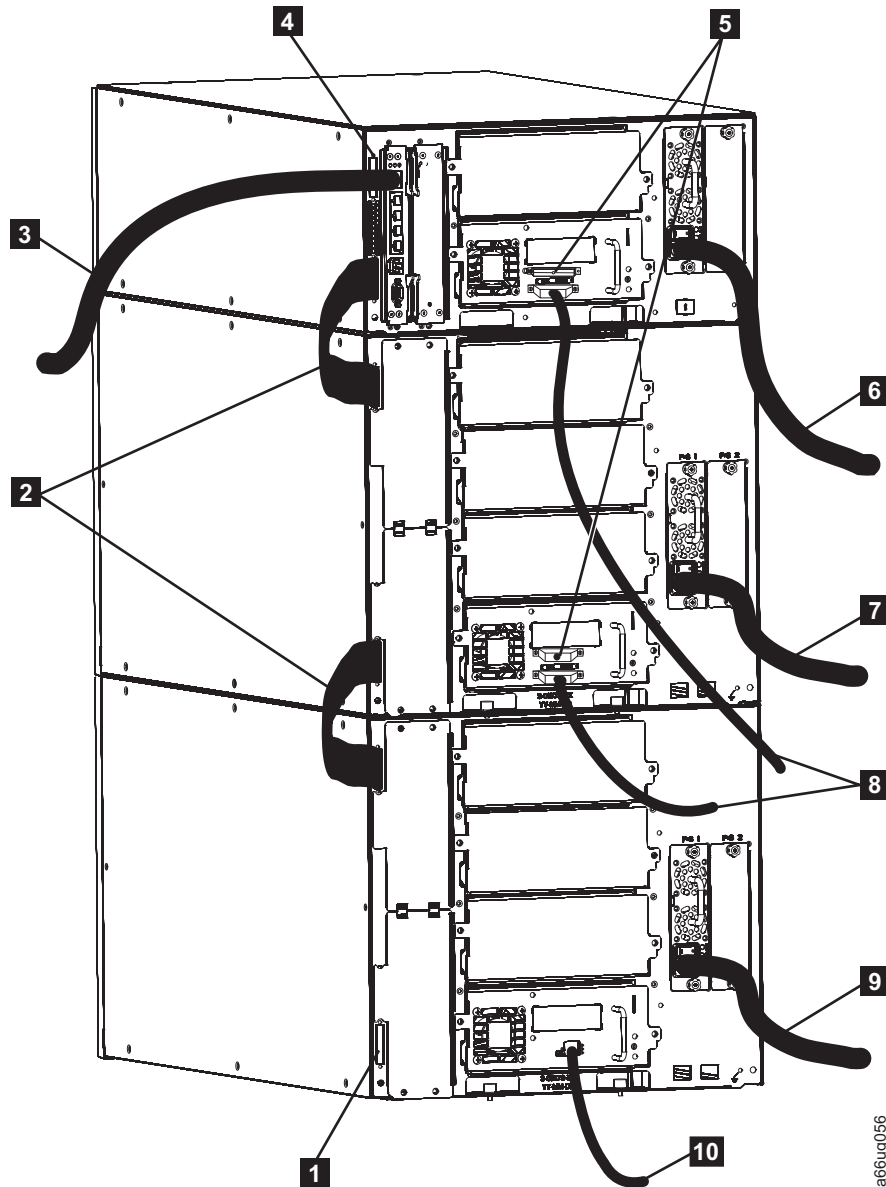

Figure 3-41. Cabling with Fibre Channel drives
1. Install a module communication terminator in the upper receptacle of the upper module of your library (**4** in Figure 3-41).
2. Install one end of one of the module-to-module communication cables in the lower receptacle of the upper module of your library. Then, install the other end in the upper receptacle of the middle module of your library (**2** in Figure 3-41 on page 3-39).
3. Install one end of the other module-to-module communication cable in the lower receptacle of the middle module of your library. Then, install the other end in the upper receptacle of the bottom module of your library (**2** in Figure 3-41 on page 3-39).
4. Install a module communication terminator in the lower receptacle of the bottom module of your library (**1** in Figure 3-41 on page 3-39).
5. Install one end of the customer-supplied ethernet cable in the Library Control Blade (LCB) ethernet port. Then, connect the other end of the cable to your network (**3** in Figure 3-41 on page 3-39).
6. For each drive, install one end of the drive host SAS or fibre cable in a drive in the library. Then, connect the other end of the cable to your network (**10** in Figure 3-41 on page 3-39). Repeat this procedure for every drive in your library.
7. Connect one end of the power cord in the receptacle of a power supply in your library. Then, connect the other end of the cord to your power source. Repeat this procedure for every power supply in your library (**6** , **7** , and **9** in Figure 3-41 on page 3-39).